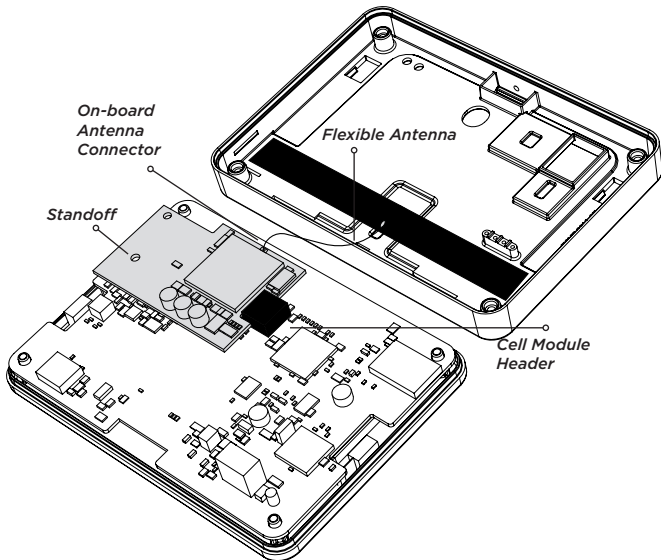

Figure 2: Installing the 265LTE Touch Series on the XTLtouch
5. Remove the backing from the flexible antenna and place it inside the housing cover. See Figure 2.